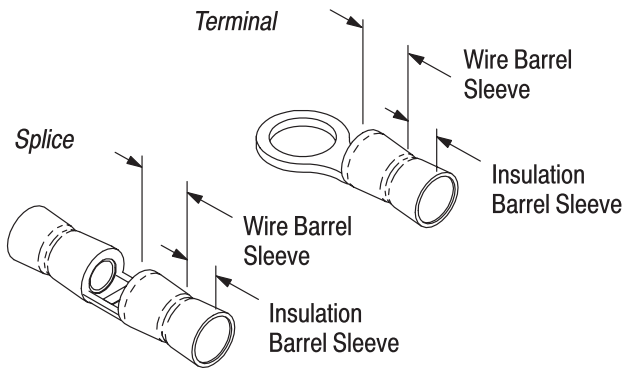

Figure 5
*The wire barrel sleeve on high-temperature terminals and splices is color coded orange. Heat-resistant terminals and splices are not color coded. Refer to Figure 5.*